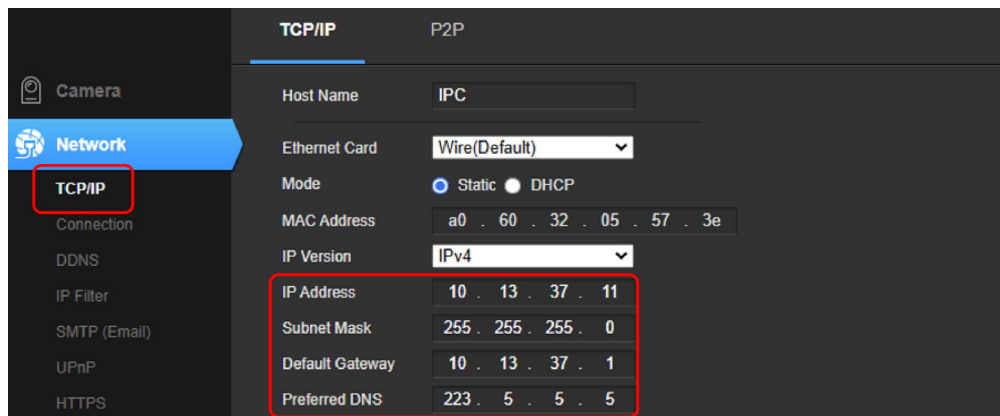

Fig. 2.10
8. Go to Network>TCP/IP (Fig. 2.10). Configure with the following settings.